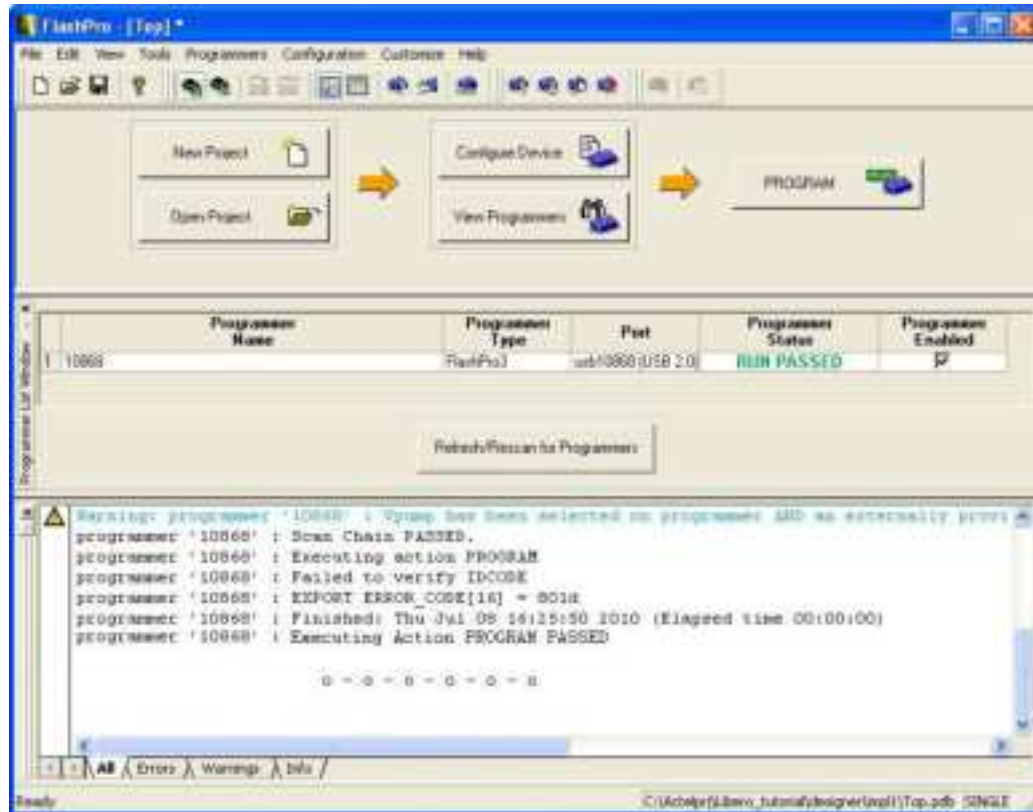

Figure 1-49 • FlashPro Programming Status
3. When the configuration is complete, click **Program** in the FlashPro screen to program the device. The FlashPro log and the Programmer List windows display current programming status (Figure 1-49)